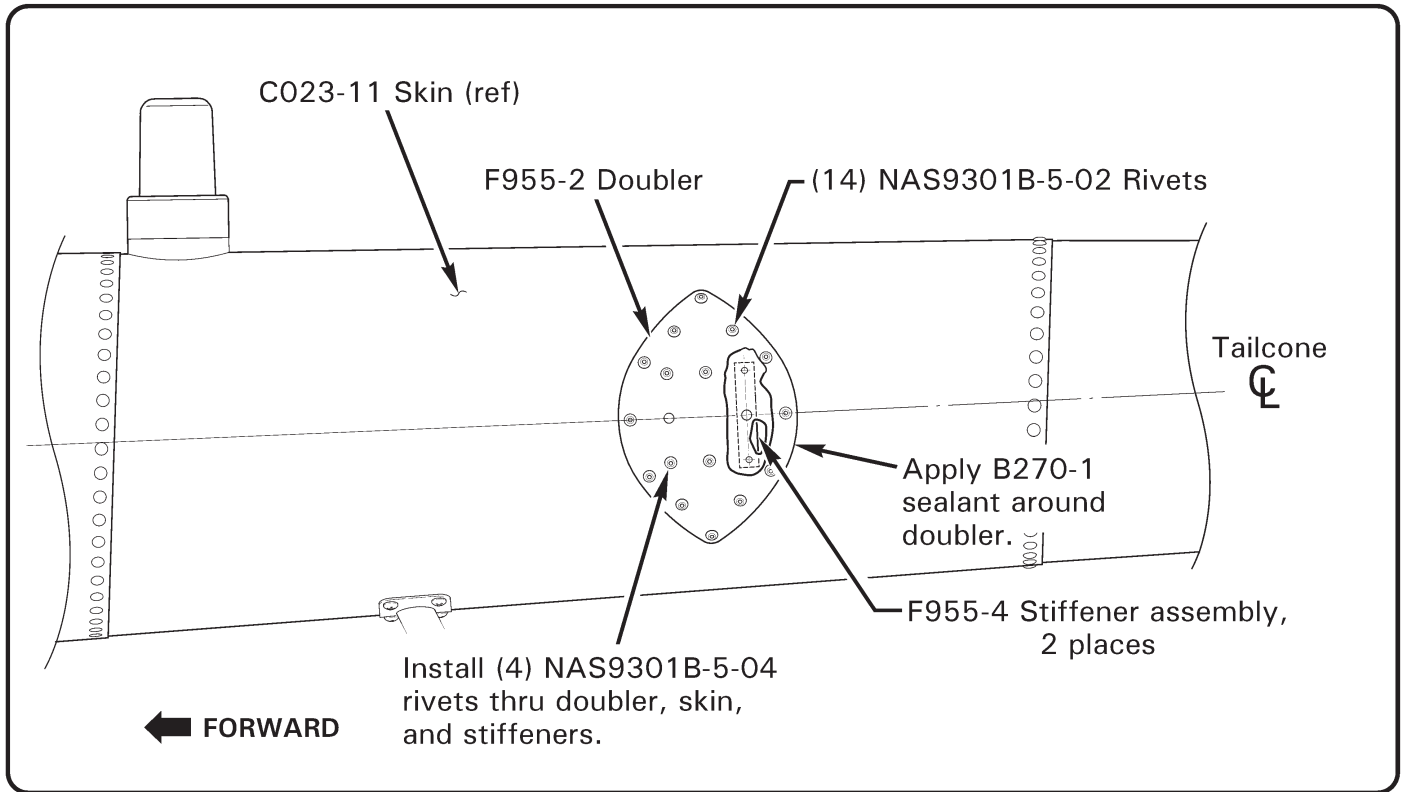
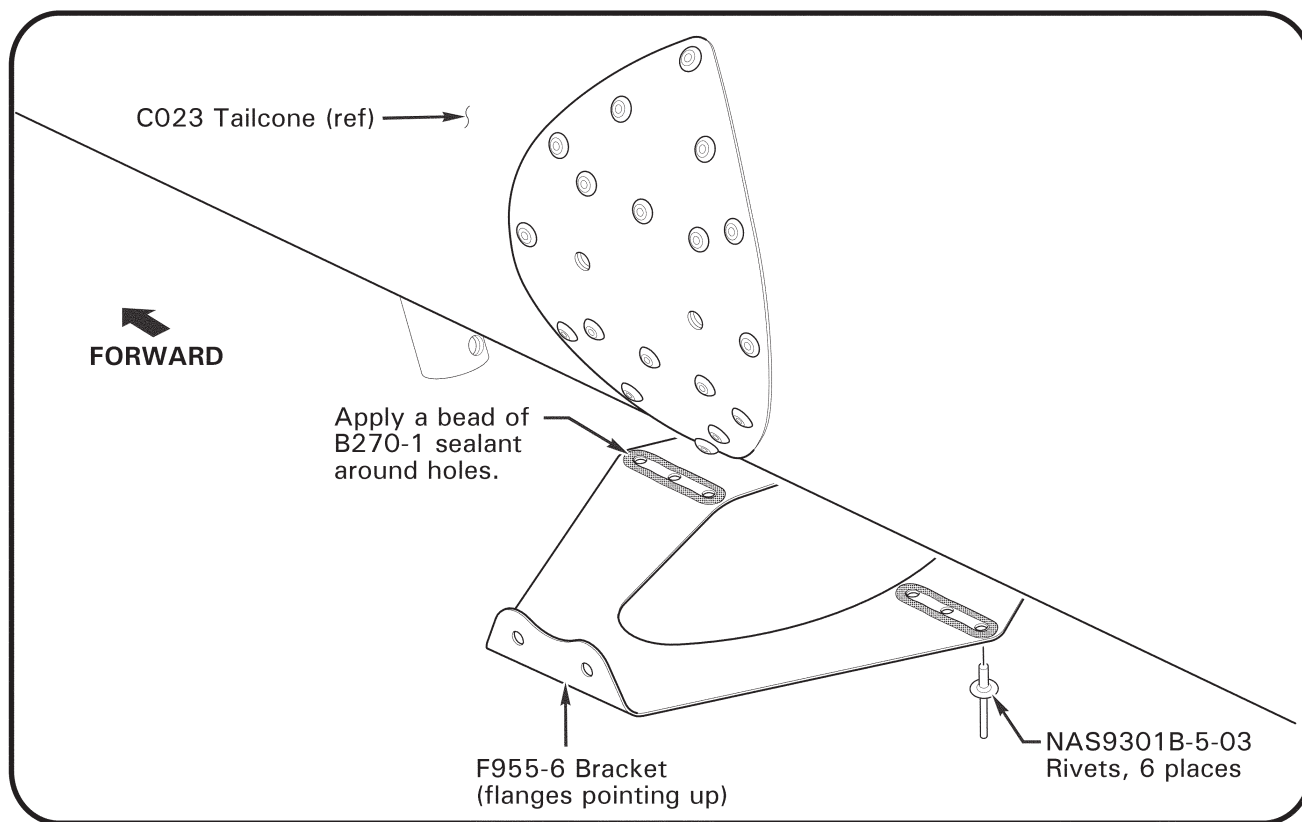

FIGURE 7 Doubler & stiffener assembly installation
FIGURE 10 F955-6 bracket installation
13. Refer to Image 4. Position doubler as marked in step 10 with safety wire threaded thru matching rivet holes of doubler. Align holes of stiffeners, tailcone, and doubler. Install clecos thru holes of doubler that align with lower holes of stiffeners. Temporarily secure doubler and stiffeners to tailcone using (2) NAS6604-3 bolts & (4) NAS1149F0432P washers ([2] washers per bolt); snug bolts hand tight. Remove safety wire. Install clecos in all remaining holes in doubler. Perform steps 12 & 13 on opposite side of tailcone.
14. Refer to Figure 7. Install stiffeners and doubler to tailcone skin using (4) NAS9301B-5-04 rivets thru stiffeners, and (14) NAS9301B-5-02 rivets thru doublers, each side of tailcone as shown, removing clecos one at a time as required. Inspect installed rivets per manufacturers' specifications at: [CA-1015.pdf \(cherryaerospace.com\)](https://cherryaerospace.com). Remove bolts & washers.
17. Refer to Figures 7 & 10. Apply B270-1 sealant around F955-2 doublers as shown in Figure 7. Apply a small bead of B270-1 sealant around the three rivet holes in F955-6 bracket (two places), as shown in Figure 10.